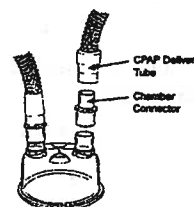

Fig 5. Connecting the CPAP delivery tube.
5. Connect the CPAP delivery tube to the other port of the HC325 using the chamber connector as shown in Fig 5. The other end of the delivery hose will be fitted to the mask.